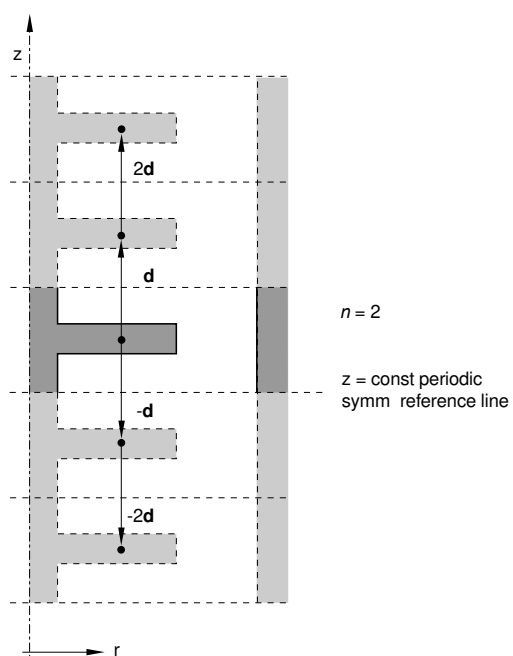

Figure 3: *PERIODIC, TYPE=ZDIR option.
Set TYPE=ZDIR to create a cavity composed of the cavity surface defined in the model and a series of similar images generated by its repetition in the *z*-direction. The repeated images are bounded by lines of constant *z*-coordinate (see *Figure 3*). The *z*-distance vector must be defined so that it points away from the *z*-constant periodic symmetry reference line and into the domain of the model. This option can be used only for axisymmetric cases.
1. z -coordinate of periodic symmetry reference line (see Figure 3).